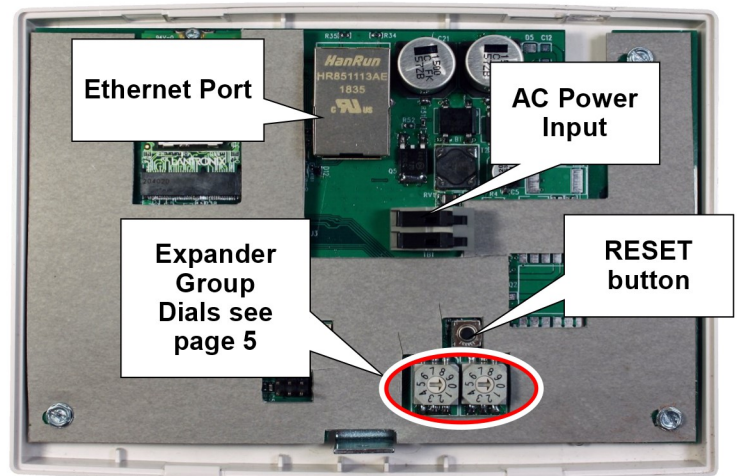

Fig. 4: "RESET" button and two "Expander Group dials"
1. With the gateway front housing removed, note the **AC POWER INPUT** and the **RESET** button (refer to Fig. 4). Connect the supplied AC Power Transformer to the **AC POWER IN** (Non-Polarity Sensitive) and allow 30 seconds for the gateway to power up.
1. With the gateway front housing removed, locate the **Ethernet Port** (see figure 4).